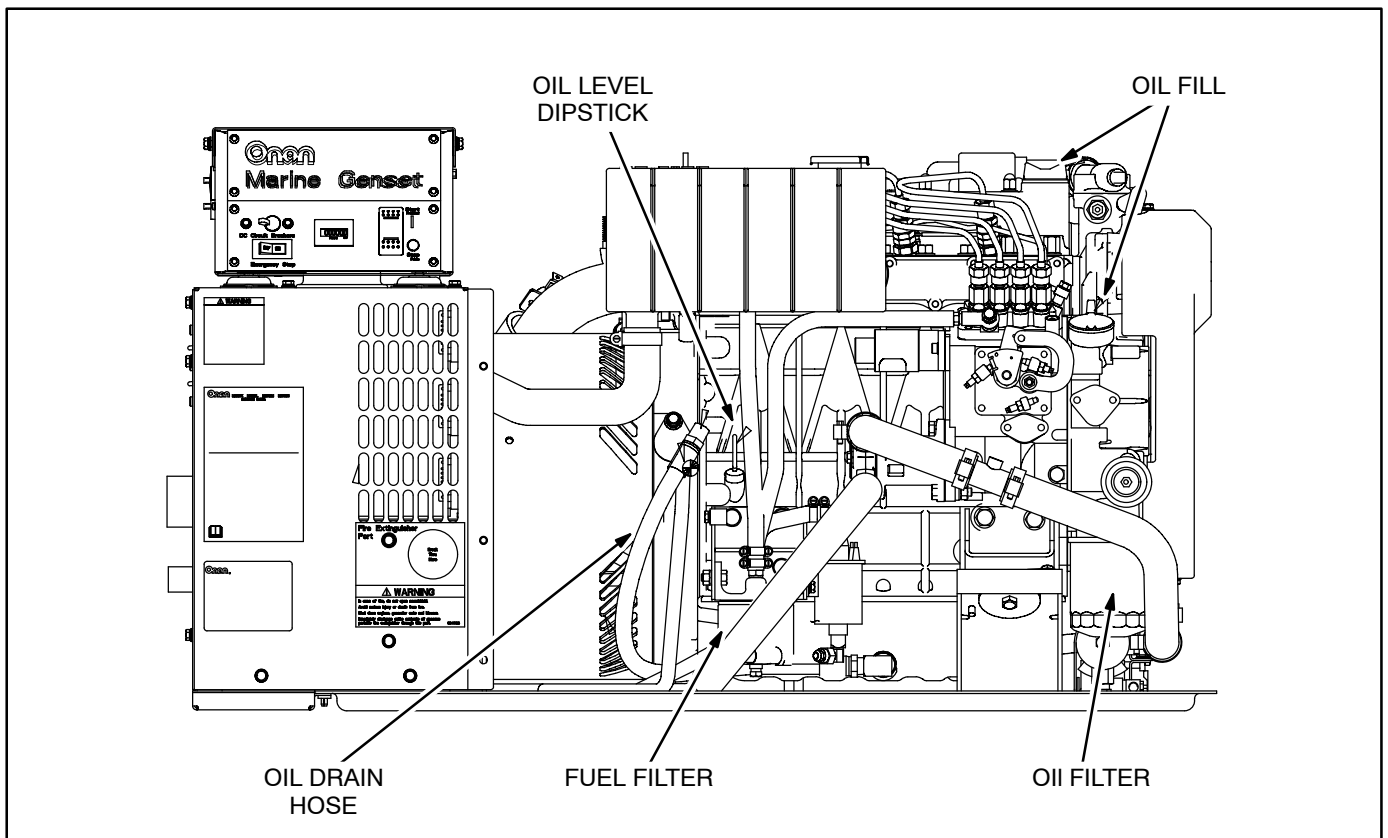

FIGURE 4-1. OIL AND FUEL SERVICE POINTS—MDKBB, MDKBL, MDKBM, MDKBN
Shut off the genset and check the oil level with the dip stick (Figure 4-1 or 4-2). Add or drain oil as necessary. Add 1 quart (0.9 liters) when the level falls to the ADD mark. Drain oil if the level is above the full mark.
2. Be ready to drain the oil into a suitable container and then open the drain valve or unscrew the plug on the end of the drain hose (Figure 4-1 or 4-2) and drain the oil into a suitable container. (Two wrenches are necessary to keep from twisting the hose when loosening and tightening the plug.) If an oil pump-out system is installed, follow the instructions provided.
The genset has a water-separator fuel filter (Figure 4-1 or 4-2). Check for other up-stream filters which may also need to be drained or replaced.